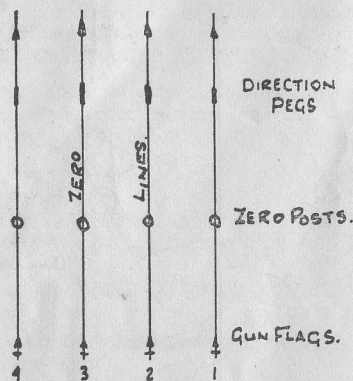

Fig 40
- (d) Mount the director over each of the other gun flags in turn and with dials and drums at zero lay the hair line on the pivot gun flag and lock the head. Apply the angle measured previously to the director and get an assistant to plant out first a zero post and then a direction peg accurately in line with the hairline. The zero line for each gun will then be pegged as in Fig 40 below.